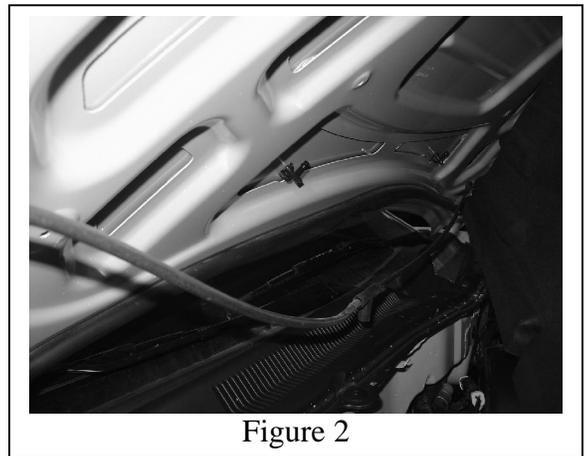

Figure 2
2. Using the panel puller, remove piping for washer fluid nozzles and two cable holders. Leave the nozzles in, and disconnect the line from the nozzles. **(FIGURE 2).**